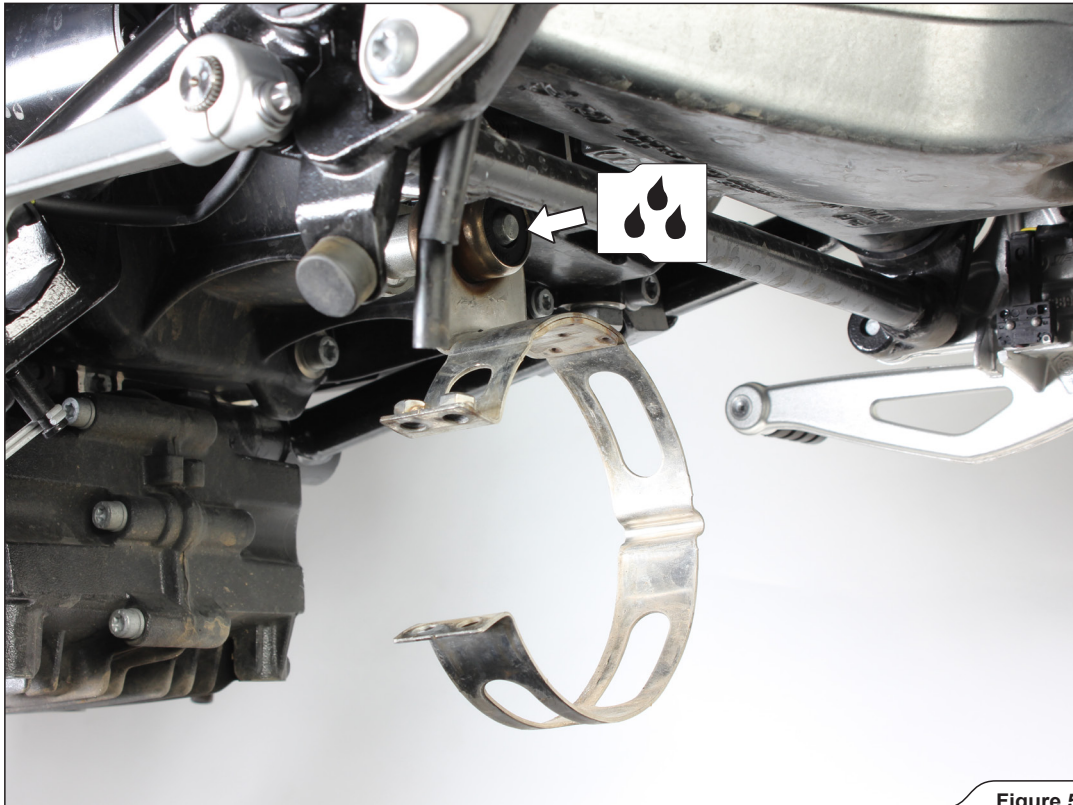

Figure 5
6. Carefully remove the header's clamp off the motorcycle (Figure 5).